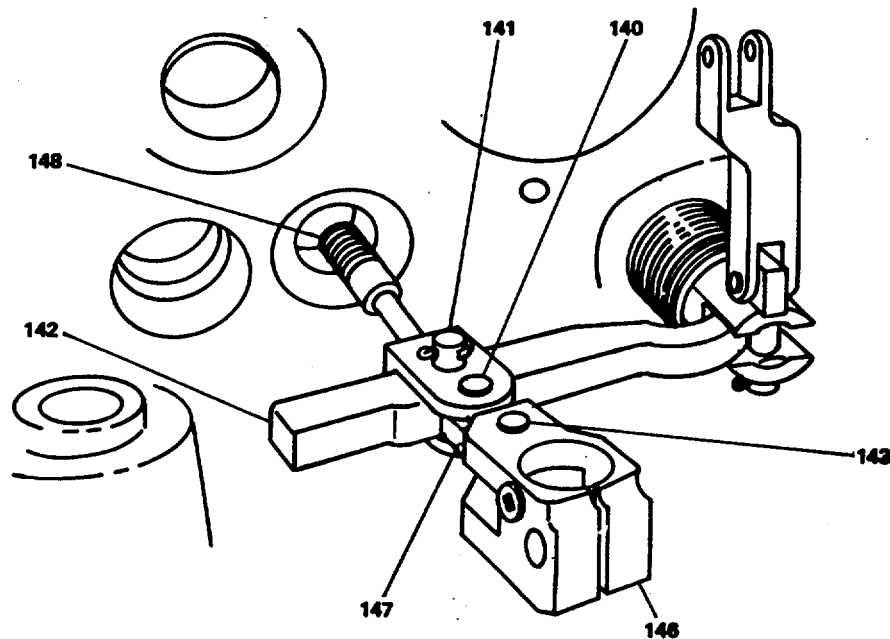

**Figure 12-15. Power Piston Assembly**
(10) Insert power piston (152) and floating lever (142) assembly into case per figure 12-15.